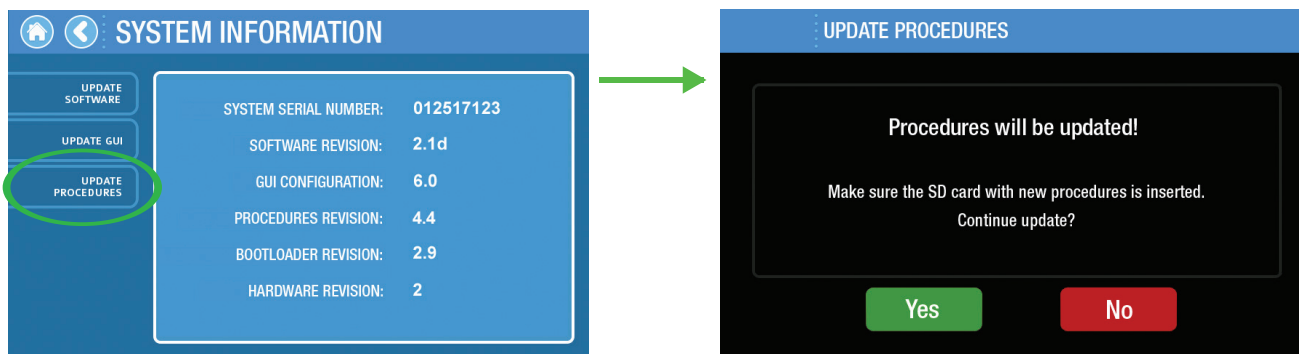

Figure 8.31
- The screen will display a confirmation screen before initiating the update (Figure 8.31)